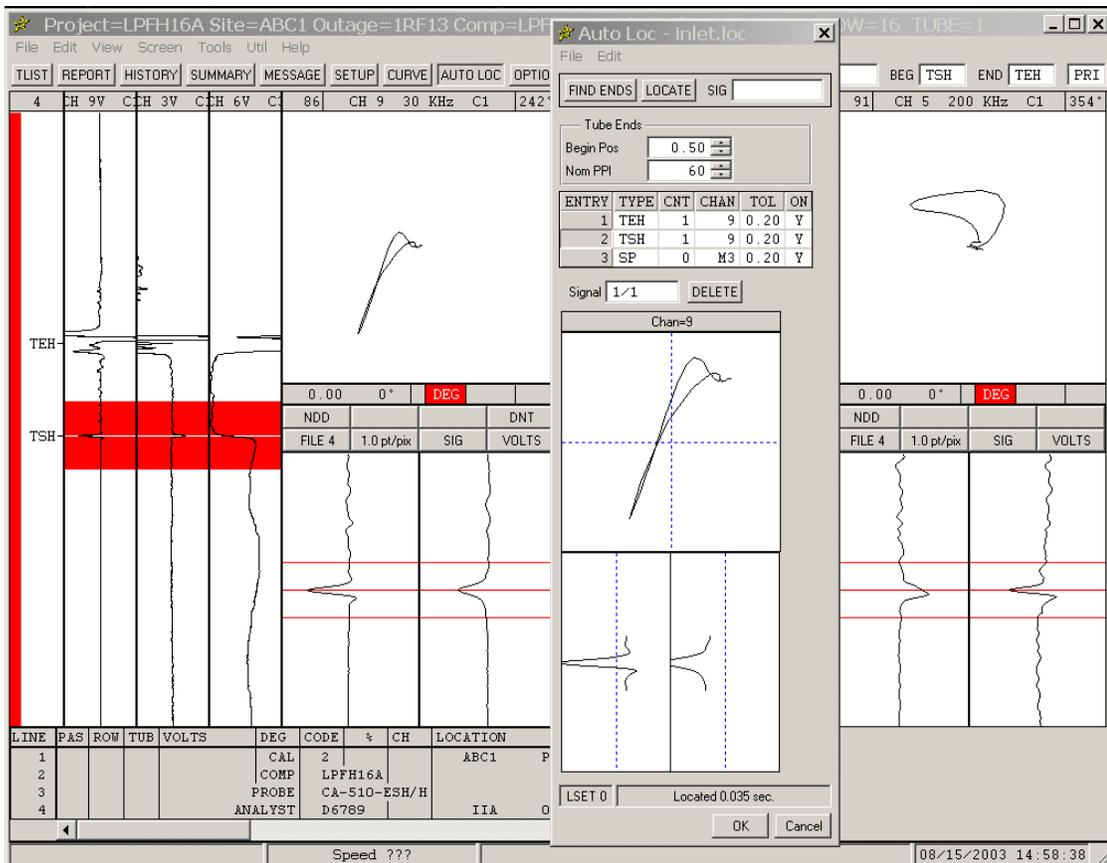

Figure 1-28. Auto-locate - Training the Tubesheet Interface
- STEP 15:** Click the **LOCATE** button. As shown in Figure 1-28, both **TEH** and **TSH** should appear in the **Landmark** strip at the correct locations in the data file.